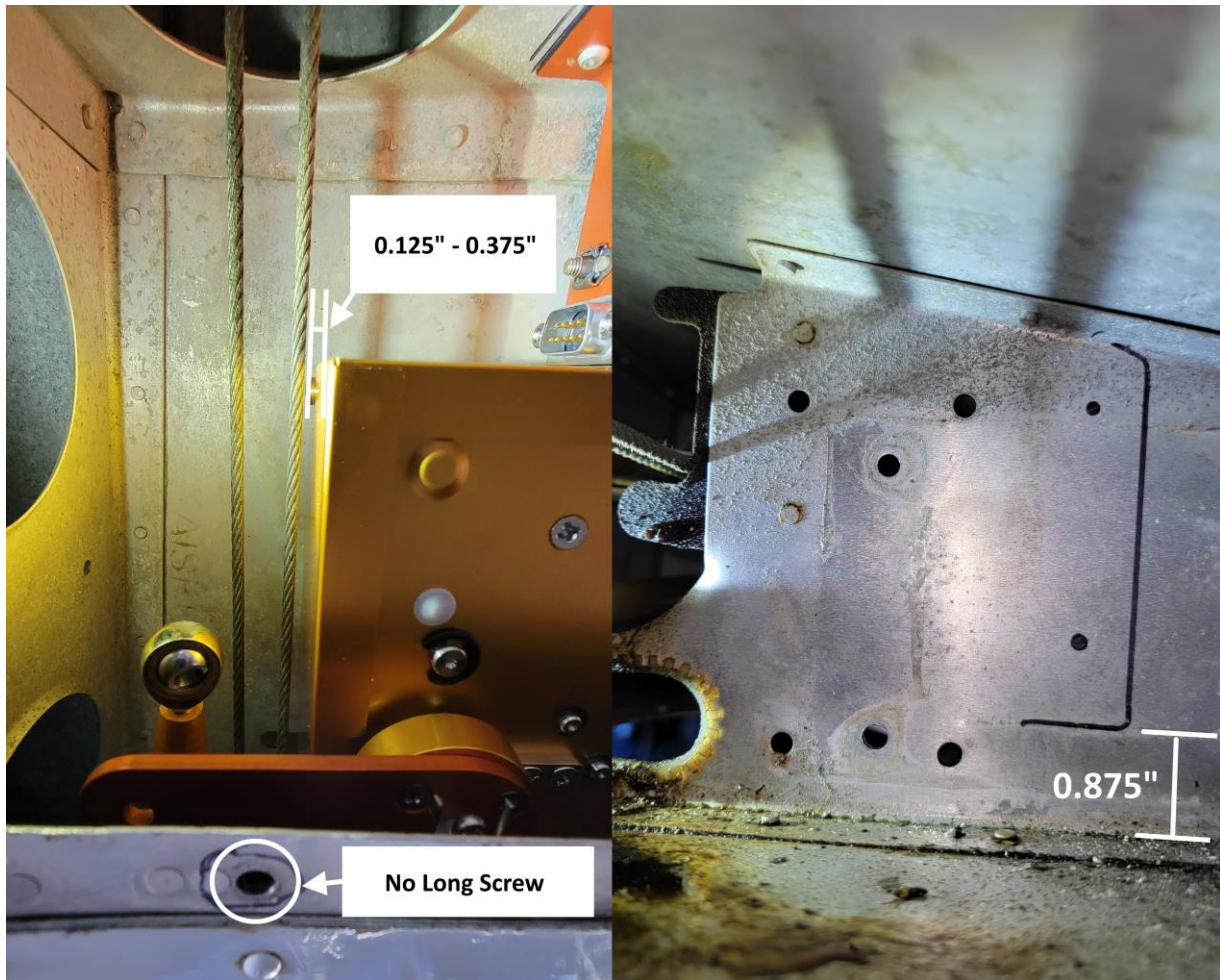

FIGURE 2-6 ROLL SERVO PLACEMENT
5. Dry fit the roll servo, mounting plate, and inboard angle piece inside the wing with clearance of 0.125" to 0.375" between the servo housing and the aileron carry-through cable. Refer to Figure 2-6.
6. Mark the location of the mounting plate and angle piece. Refer to Figures 2-6 & 2-7.